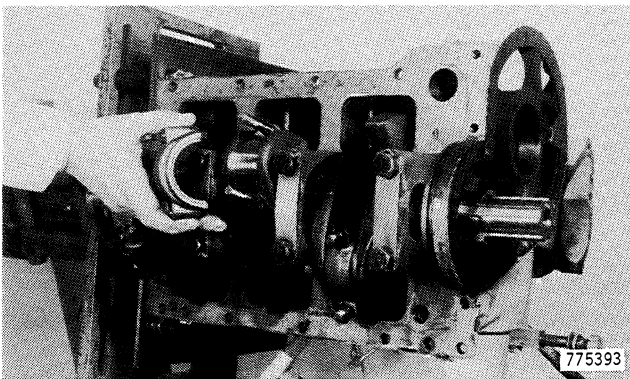

Figure 41
5. Make sure connecting rods and bearing caps are marked so they can be installed in the same position. Remove the bearing caps, Figure 41. If the connecting rod bearing inserts are going to be used again, keep them in order so they can be installed in their original location.